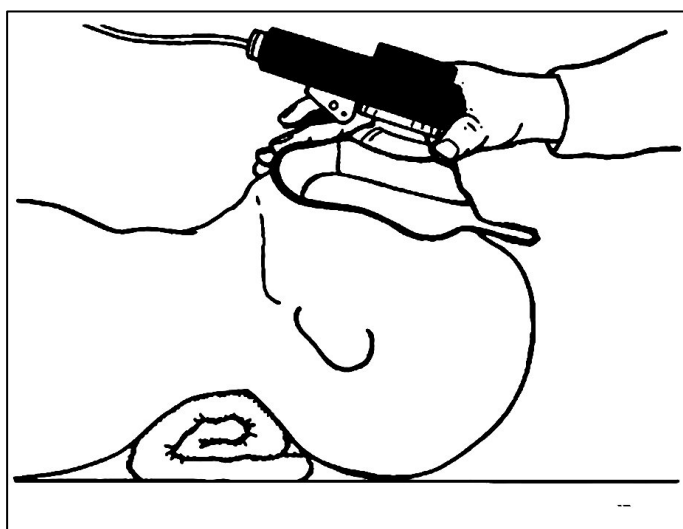

Fig. 2: Position of Mask with Trigger in use
9. Check the airway and place the face mask over the casualty's face ensuring a tight seal round the nose and mouth (Fig. 2).
10. Use the manual trigger to give 2 inflations that will saturate the lungs with oxygen (Fig. 2), whilst watching the rise and fall of the chest.